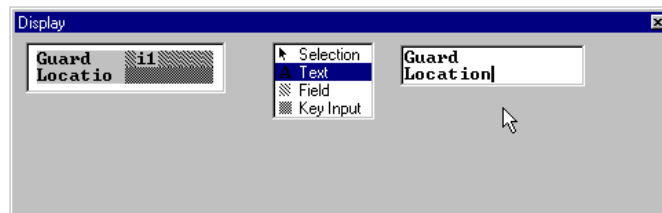

Figure 3-66 “Guard” Handler Display - Location Corrected in Edit Box
56. Type an “n” (Figure 3-66).